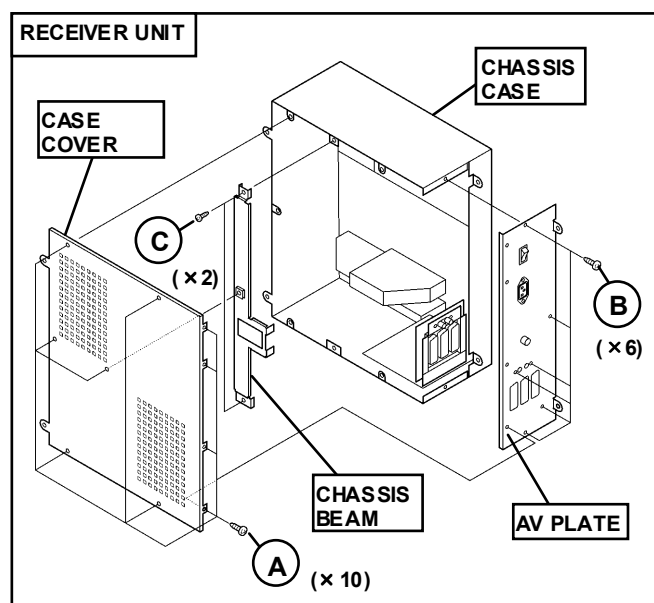

Fig.4
1. Remove the **10** screws marked **A** as shown in Fig.4.
1. Remove the **6** screws marked **B** as shown in Fig.4.
4. Remove the **2** screws marked **C** as shown in Fig.4.